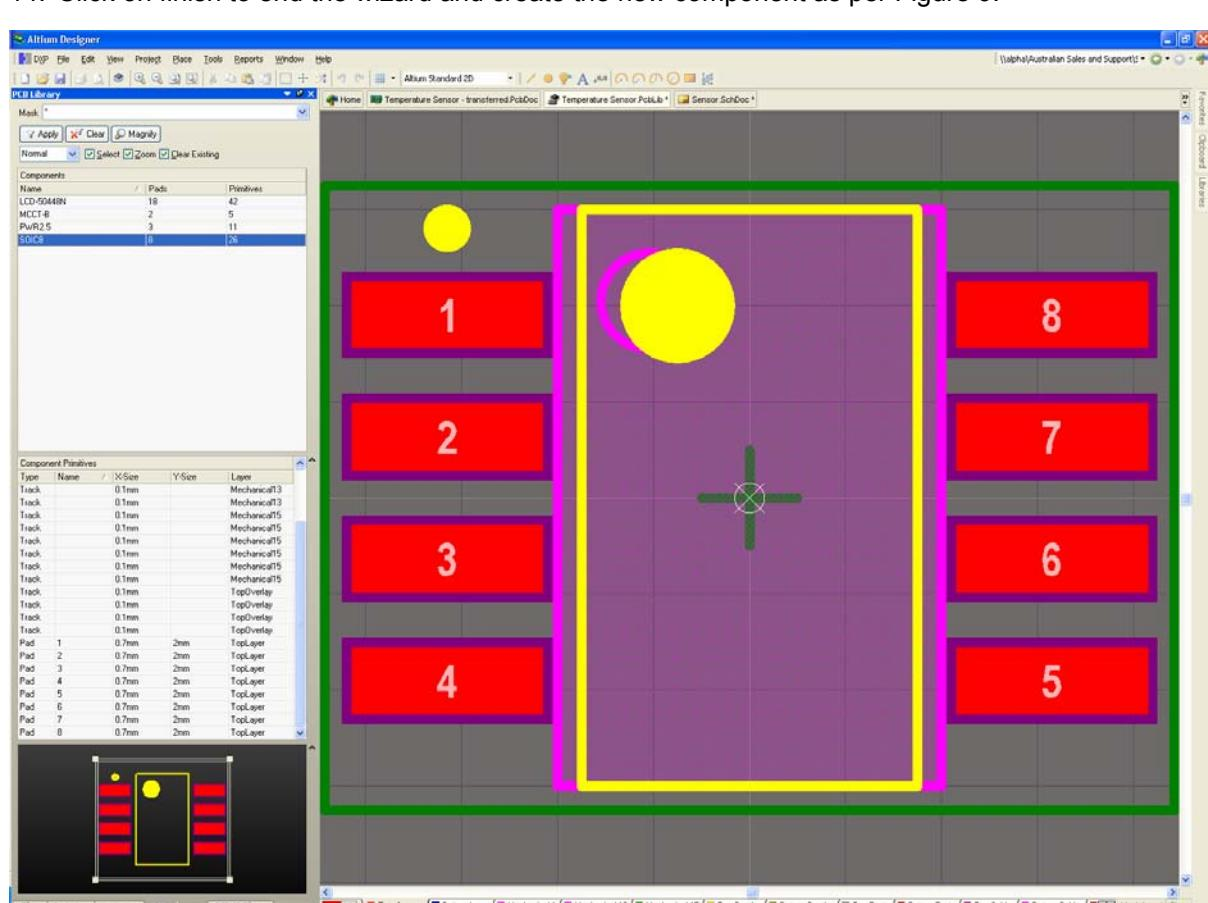

Figure 9. Finished footprint created in the temperature sensor.pcblib.
14. Click on finish to end the wizard and create the new component as per Figure 9.